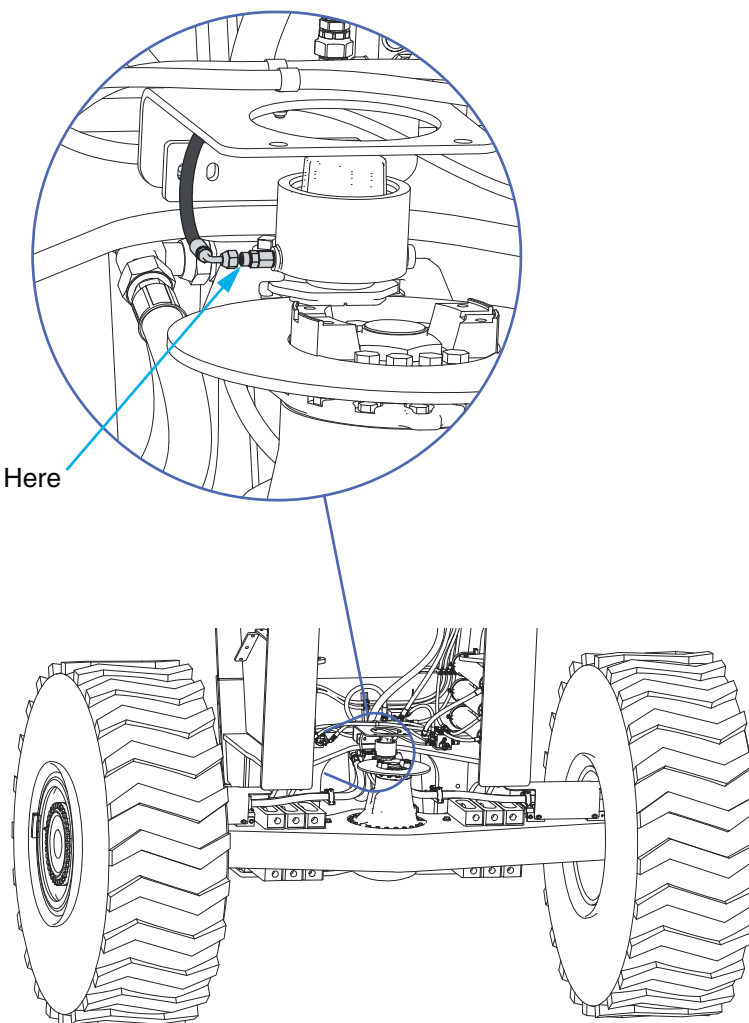

Figure 2 Connect Porta-Power
1. Remove hose from park brake caliper and connect porta-power (see Figure 2). Operate porta-power until park brake disengages.